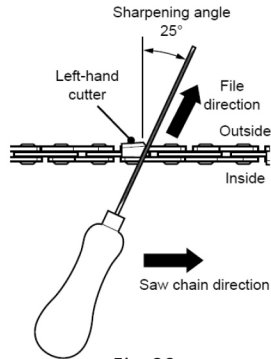

Fig. 29
6). File at an angle perpendicular to the bar, and at an angle of 25° to the direction of travel. (See Fig. 29)